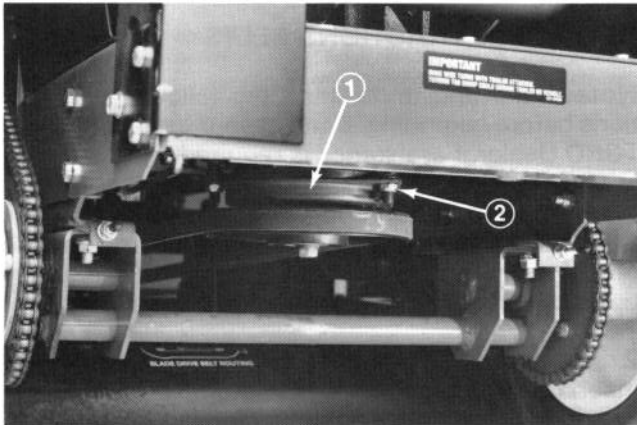

Figure 27
1. To adjust the clutch, tighten or loosen locknuts on flange studs (Fig. 27).